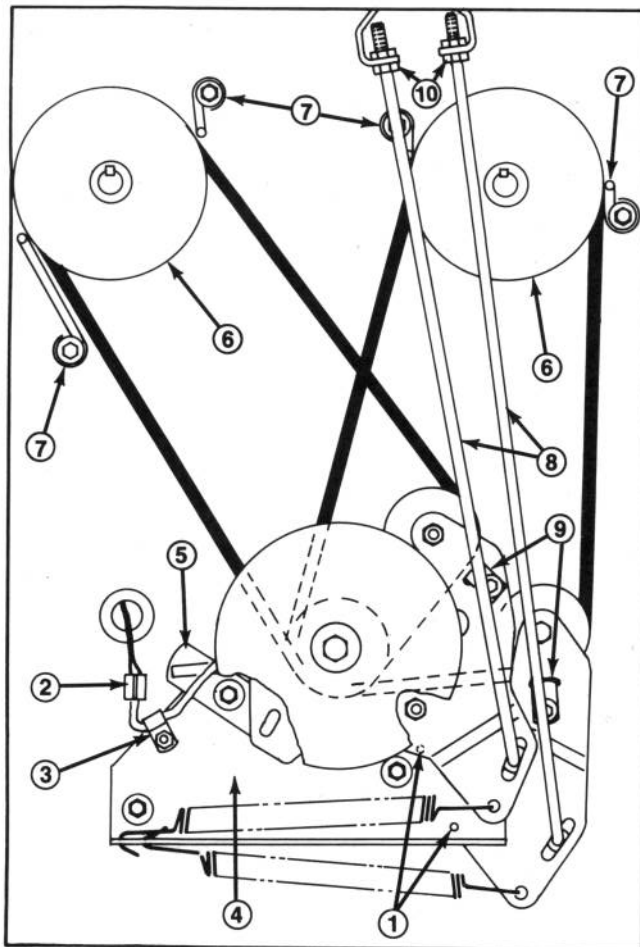

Figure 32
2. Have a helper depress clutch pedal while you insert (2) 1/4" capscrews into holes in pivot platform (Fig. 32). Slowly release clutch pedal allowing pivot plates to rest against capscrews, relieving tension from the belts.
4. Remove (3) capscrews and lockwashers securing clutch retainer and pivot platform to rider. (Electric clutch may have to be rotated to remove clutch retainer) (Fig. 32).
6. Remove front jam nut from each rear pull rod so that both pull rods can be disconnected (Fig. 32).
8. Remove (2) capscrews securing (2) belt retainers to pivot plates (Fig. 32) and remove belt retainers. Replace both traction belts and reinstall belt retainers and capscrews to pivot plates.
9. With (2) capscrews previously removed, reinstall assembly of pivot platform and rear pull rods into rear holes in pivot platform. Loosely install front jam nuts on pull rods.
13. Have a helper depress clutch pedal while you remove the (2) capscrews installed in step #2.
14. Adjust and securely tighten (4) belt guides on (2) driven pulleys.